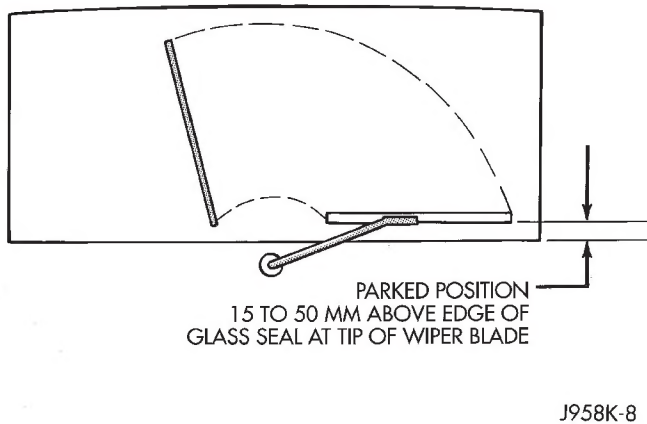

Fig. 9 Liftgate Wiper Arm Install
- (8) Remove the wiper motor mounting screws.
- (9) Remove the wiper motor.
- (10) Reverse removal procedures to install. Tighten pivot pin retaining nut to 4 N·m (32 in. lbs.). Lubricate the bezel nipples with a small amount of water when installing washer hoses. The liftgate wiper blade should be installed parallel to window opening and no closer than 5mm to window seal when operated on a wet window (Fig. 9).